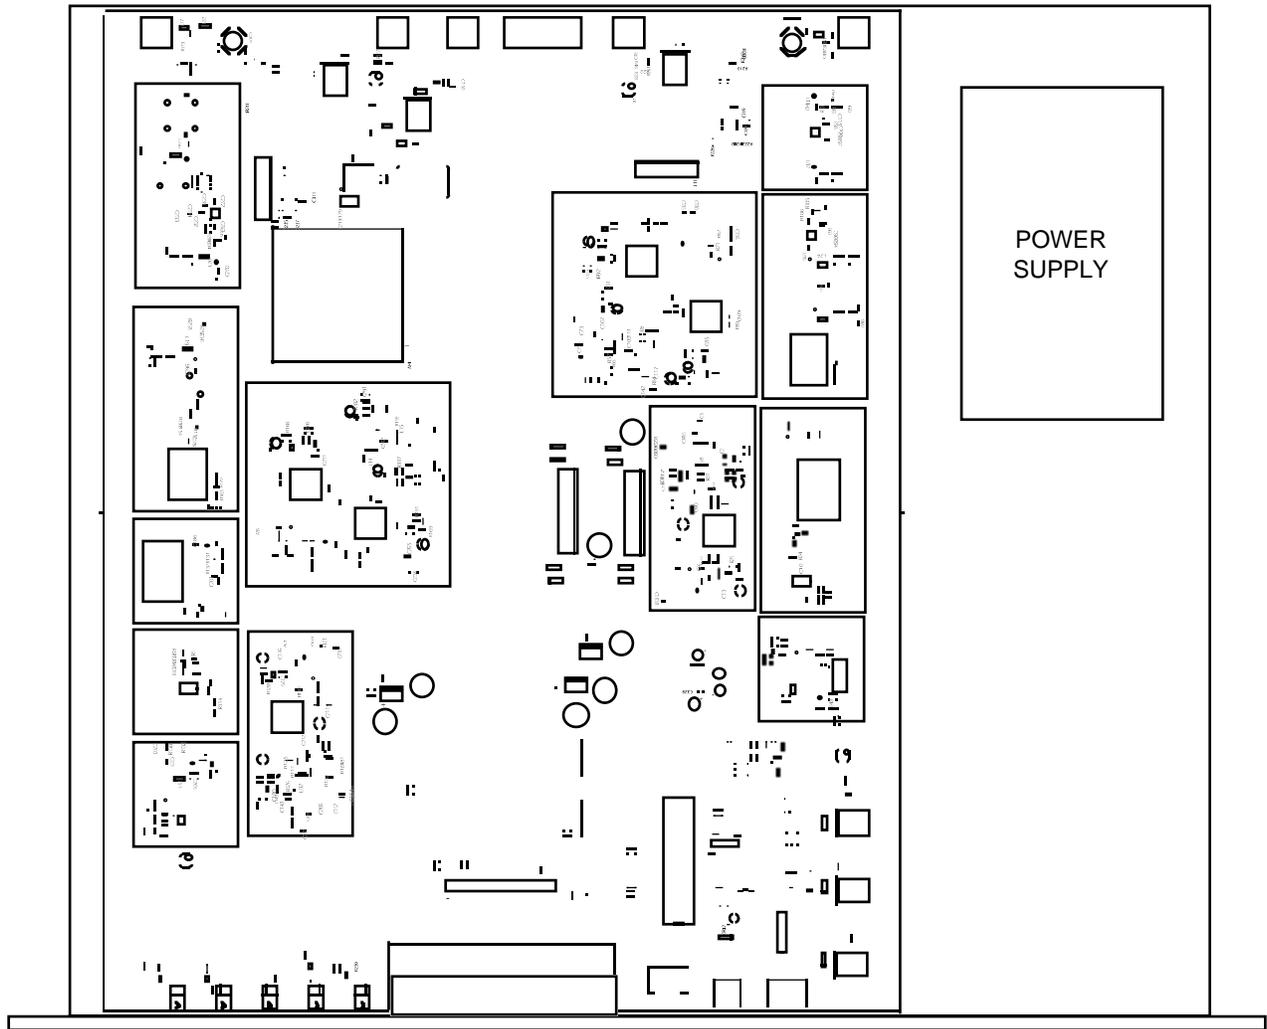

Figure 2.0 Model 2017-05A Mechanical Assembly
2.1 Mechanical - The 2017-05A consists of one RF/Controller PCB housed in a 1 RU (1 3/4 inch high) by 16 inch deep chassis. A switching, ± 12 , +5, +24 VDC power supply provides power for the assemblies. The 2017-05A can be secured to a rack using the 4 holes on the front panel. Figure 2.0 shows how the 2017-05A is assembled.